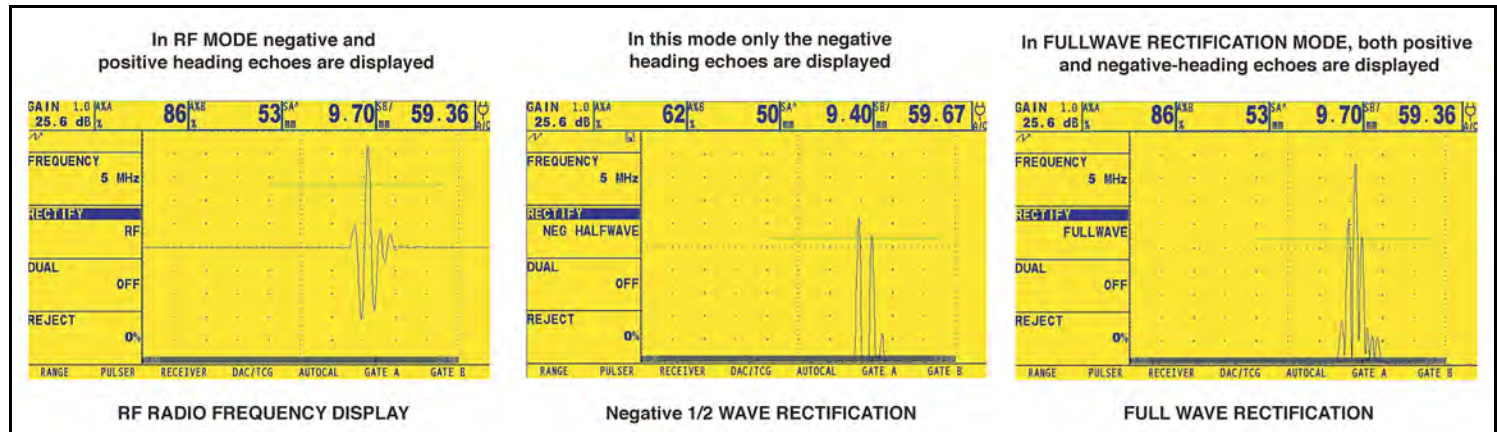

Figure 12: Typical RF and Rectified Signals
Rectification effects the orientation of the A-scan on the display screen. The A-scan represents the sound pulse (i.e. echo) that is returned to the instrument from the material being tested. The series of echoes looks like the *Radio Frequency (RF)* signal shown in *Figure 12* below. Note that the RF signal has both a negative component below the axis and a positive component above the axis. In RF mode, Gate A and Gate B can be positioned either above or below the axis, to be triggered by either a positive-heading echo or a negative-heading echo.
- *Negative Half Rectification* means that only the bottom (i.e. negative) half of the RF signal is displayed (see *Figure 12 on page 47*). Note that although only the negative half of the RF signal is displayed, it is shown in the same orientation as a positive component to simplify viewing.
- *Full-Wave Rectification* combines the positive- and negative-rectified signals together, and displays both of them in a positive orientation (see *Figure 12 on page 47*).